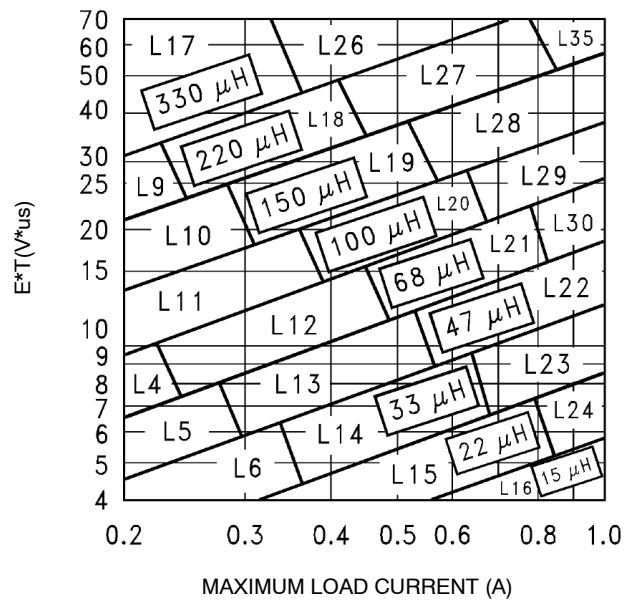

Figure 19. Inductor Value Selection Guides (For Continuous Mode Operation)
<p>4. Inductor Selection (L1)</p> <p>A. Use the following formula to calculate the inductor Volt x microsecond [V x μs] constant:</p> $E \times T = (V_{IN} - V_{OUT} - V_{SAT}) \times \frac{V_{OUT} + V_D}{V_{IN} - V_{SAT} + V_D} \times \frac{1000}{150 \text{ kHz}} (V \times \mu s)$ <p>B. Match the calculated E x T value with the corresponding number on the vertical axis of the Inductor Value Selection Guide shown in Figure 19. This E x T constant is a measure of the energy handling capability of an inductor and is dependent upon the type of core, the core area, the number of turns, and the duty cycle.</p> <p>C. Next step is to identify the inductance region intersected by the E x T value and the maximum load current value on the horizontal axis shown in Figure 19.</p> <p>D. Select an appropriate inductor from Table 3. The inductor chosen must be rated for a switching frequency of 150 kHz and for a current rating of $1.15 \times I_{Load}$. The inductor current rating can also be determined by calculating the inductor peak current:</p> $I_{p(max)} = I_{Load(max)} + \frac{(V_{in} - V_{out}) t_{on}}{2L}$ <p>where t_{on} is the "on" time of the power switch and</p> $t_{on} = \frac{V_{out}}{V_{in}} \times \frac{1.0}{f_{osc}}$	<p>4. Inductor Selection (L1)</p> <p>A. Calculate E x T [V x μs] constant:</p> $E \times T = (12 - 5 - 1.0) \times \frac{5 + 0.5}{12 - 1 + 0.5} \times \frac{1000}{150 \text{ kHz}} (V \times \mu s)$ $E \times T = (6) \times \frac{5.5}{11.5} \times 6.7 (V \times \mu s)$ <p>B. E x T = 19.2 [V x μs]</p> <p>C. $I_{Load(max)} = 1.0 \text{ A}$ Inductance Region = L30</p> <p>D. Proper inductor value = 68 μH Choose the inductor from Table 3.</p>
To simplify the inductor selection process, an inductor selection guide for the LM2595 regulator was added to this data sheet (Figure 19). This guide assumes that the regulator is operating in the continuous mode, and selects an inductor that will allow a peak-to-peak inductor ripple current to be a certain percentage of the maximum design load current. This percentage is allowed to change as different design load currents are selected. For light loads (less than approximately 300 mA) it may be desirable to operate the regulator in the discontinuous mode, because the inductor value and size can be kept relatively low. Consequently, the percentage of inductor peak-to-peak current increases. This discontinuous mode of operation is perfectly acceptable for this type of switching converter. Any buck regulator will be forced to enter discontinuous mode if the load current is light enough.